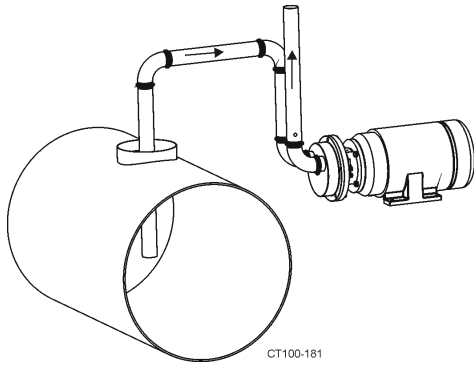

Figure 3 - Vertical Suction and Discharge
**Foot or Check Valve in Suction Piping:** For suction lift applications not allowing vertical suction piping (Figure 3), install foot or check valve to prevent backflow and siphon effect from evacuating liquid in casing.
**Vertical Suction Piping:** For suction lift applications, install vertical section of pipe no less than 3 feet (1 meter) long in suction and discharge piping. This will prevent backflow (due to siphon effect) from evacuating liquid in casing (Figure 3).